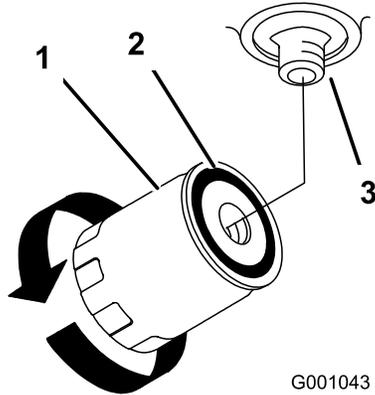

Figure 76
3. Apply a thin coat hydro fluid to the rubber gasket on the replacement filter (Figure 76).
7. Fill the hydraulic tank with hydraulic fluid until the fluid overflows the filter and then turn the oil filter clockwise until the rubber gasket contacts the filter adapter, then tighten the filter an additional 1/2 turn (Figure 76).